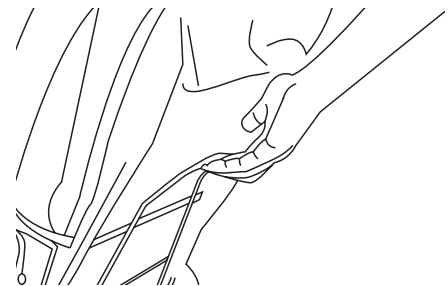

Fig. 5
- Pull the bar located on the back of the seat upwards and rotate seat downward to recline seat. (Fig. 5)